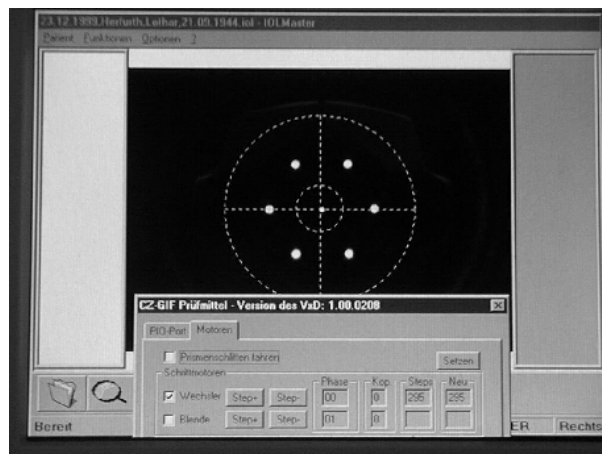

Fig. 28
- Move the window in such a way that the video picture is visible and the test program in the window can be controlled, see Fig. 28.